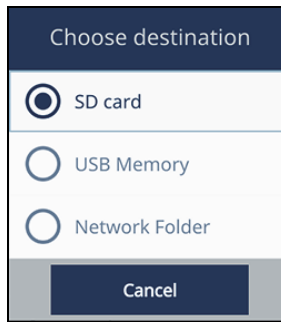

Figure 2-38 Choose Destination dialog box
2. Tap the **Destination** list button (☰) to open the **Choose Destination** dialog box (see Figure 2-38 on page 53).